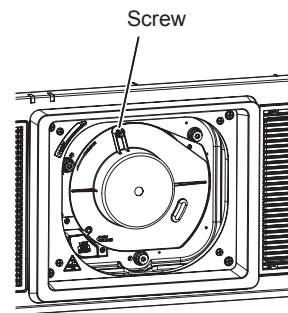

Fig. 3
- 4) Secure the lens hole cover. (Fig. 3)**